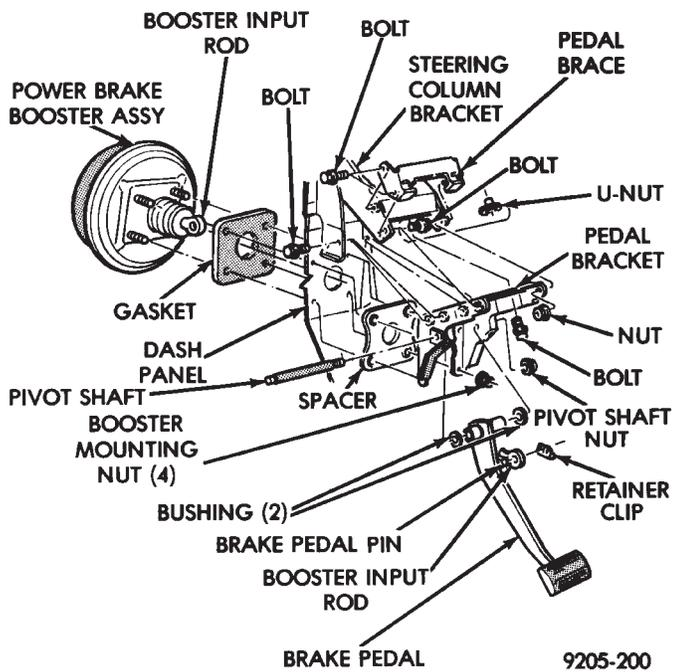

Fig. 5 Power Brake Booster Mounting
(4) From under instrument panel, position a small screwdriver between the center tang on the power brake booster input rod to brake pedal pin retaining clip.
(5) Rotate screwdriver enough to allow retainer clip center tang to pass over end of brake pedal pin and pull retainer clip off pin. **Discard retainer clip it is not to be reused, replace only with a new retainer clip.**
(6) Remove the four nuts that attach the power brake booster to the vehicle dash panel. Nuts are accessible from under the dash panel in the area of the steering column and pedal bracket (Fig. 5).
- (1) Position power brake booster onto dash panel.
- (2) Install and tighten the 4 power brake booster to dash panel mounting nuts (Fig. 5) to 29 N•m (250 in. lbs.) torque.
- (3) Install steel heater water line and clutch cable bracket, if so equipped.
- (4) Carefully position master cylinder on power brake unit.
- (6) Connect vacuum hose onto the check valve, located on the power brake unit.
- (7) Using lubriplate, or equivalent, coat the bearing surface of pedal pin (Fig. 5).
- (8) Connect power brake booster input rod to brake pedal pin and install a **NEW** retainer clip. **Use only a new retainer clip DO NOT USE the old clip.**
- (9) Check stop light operation.